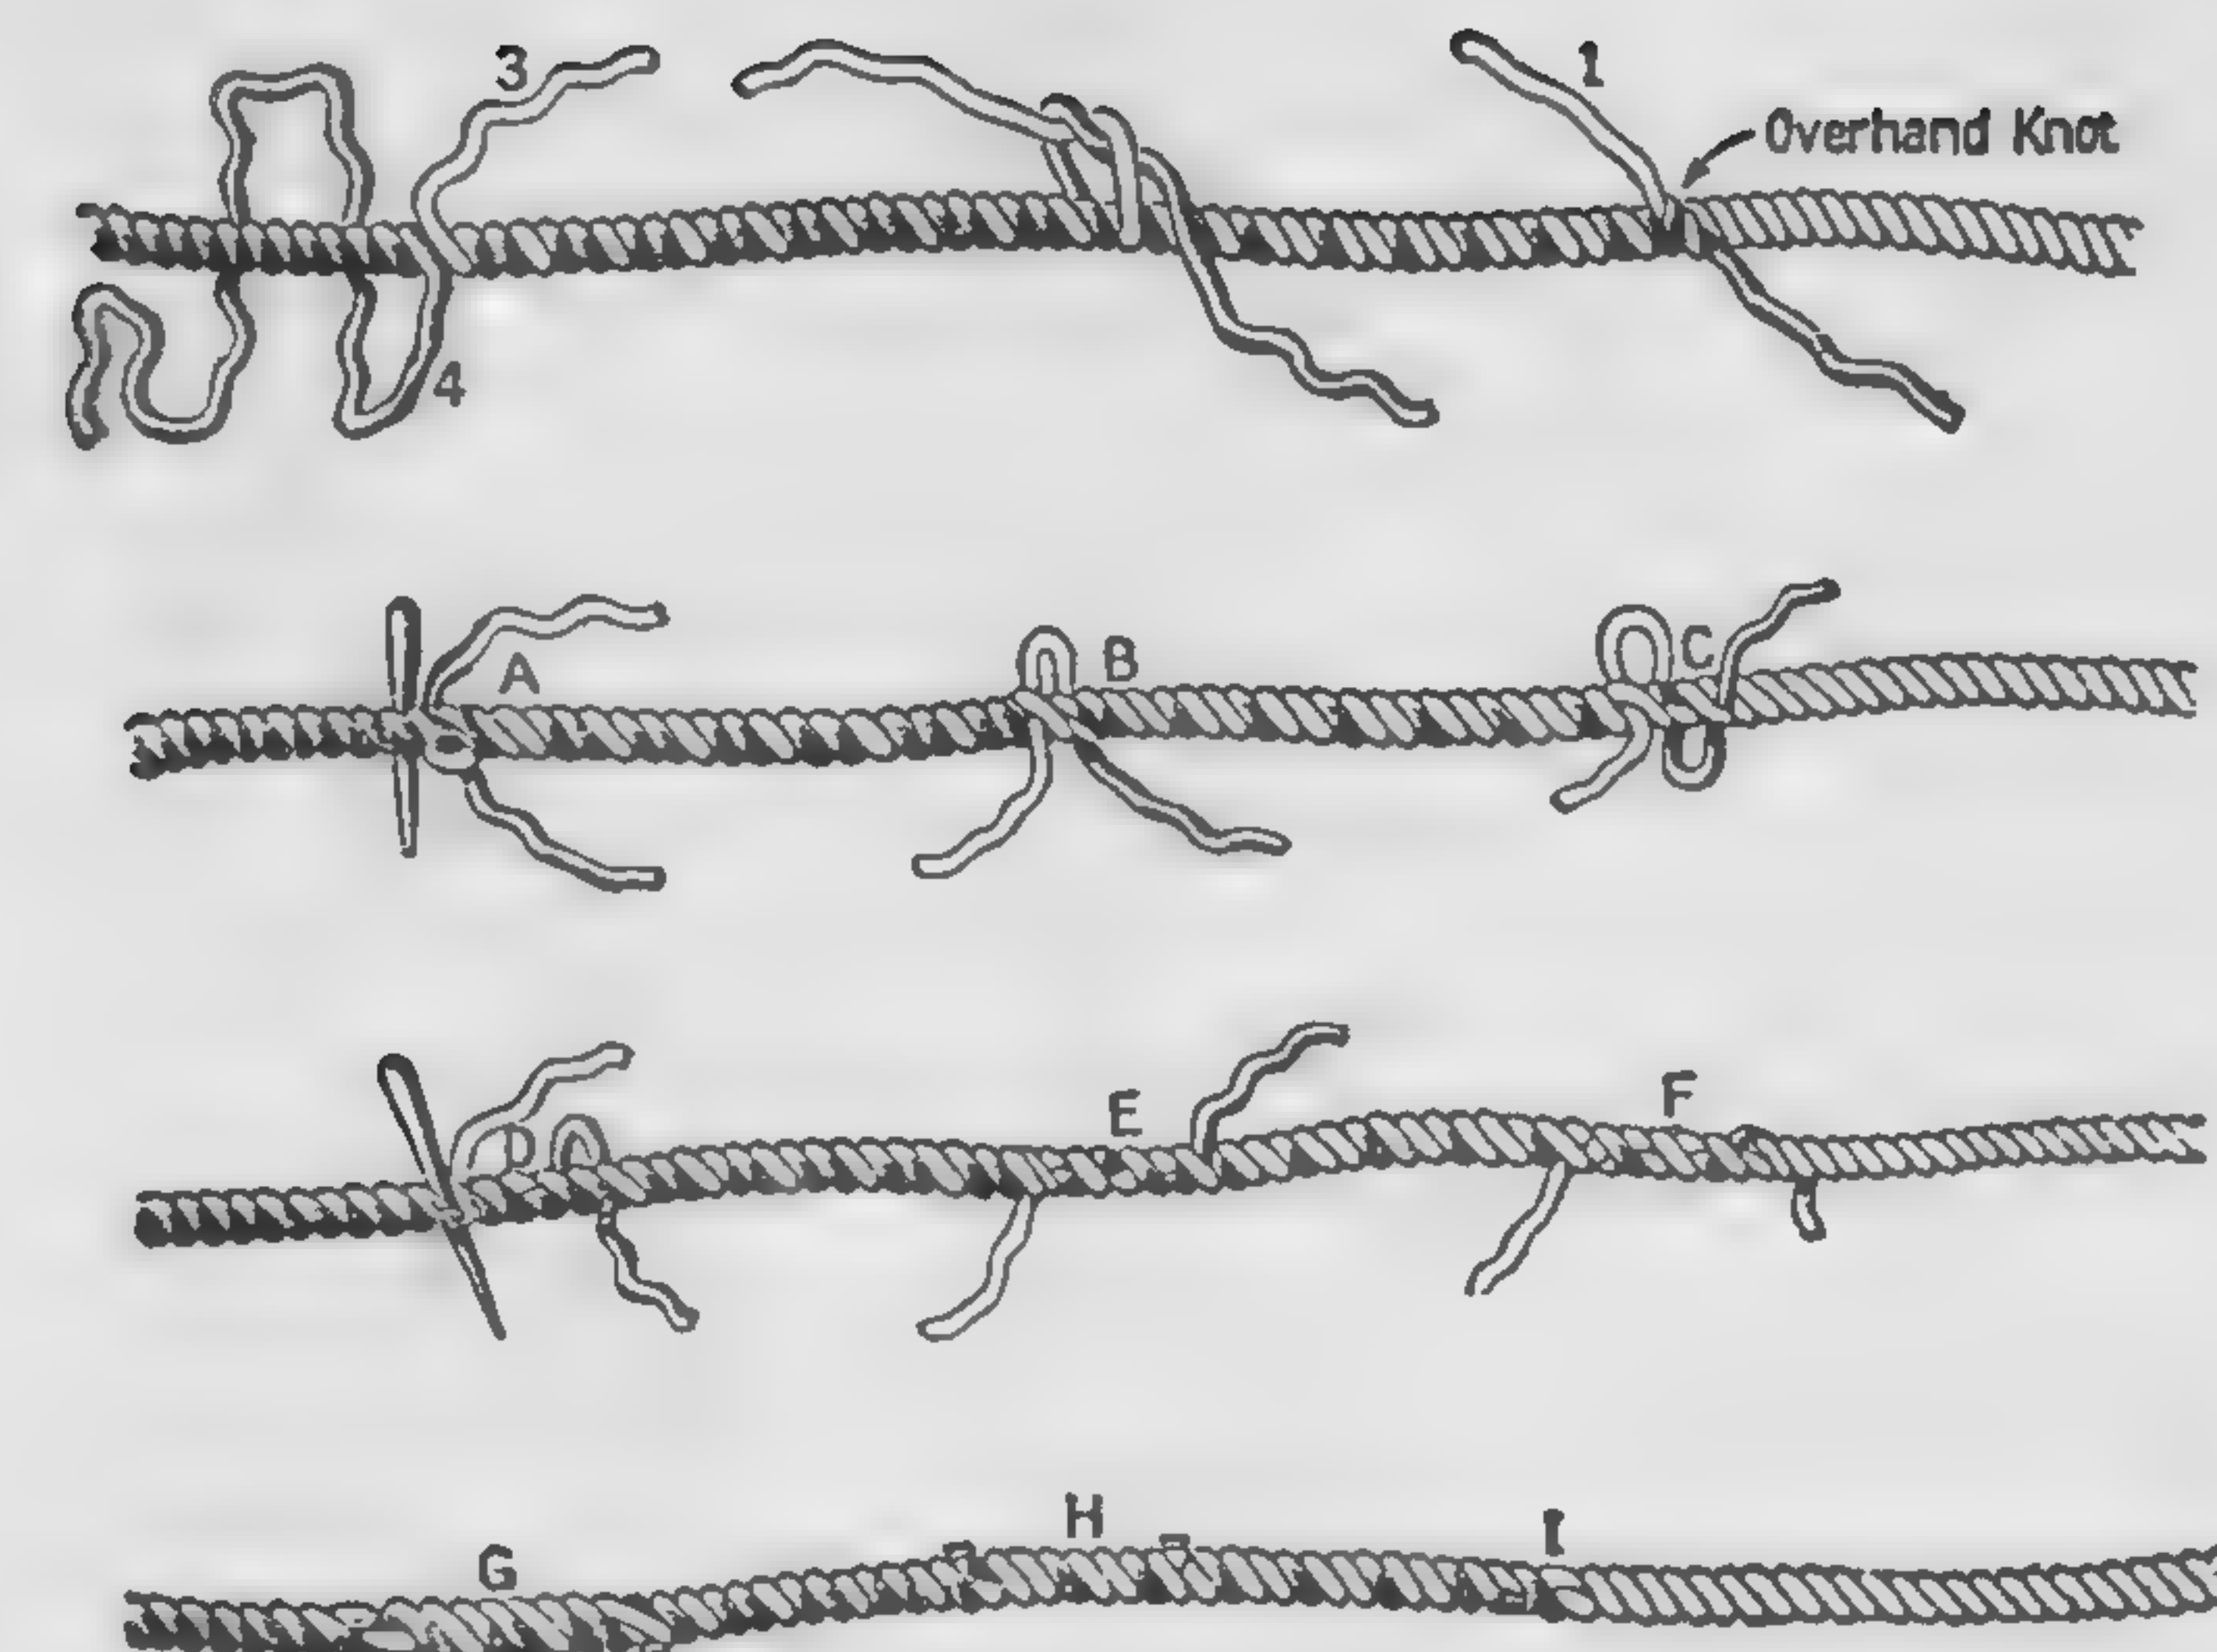

Fig. 5
5. Each pair of strands is tied together now, and the end of each strand tucked. Cut all strands the length of the shortest, that is, 6" to 9" long. Arrange each pair so that the strand from the left is in front of the strand from the right; or, in other words, arrange the strands so that they cannot untwist from the rope without first uncrossing. Tie each pair of strands together with an overhand knot and pull down tightly into rope as shown in Fig. 5.
6. Tuck each strand as shown in Fig. 5.
8. With a round stick, pound down each part of the splice and roll it between two flat surfaces under pressure, as between foot and floor. The completed splice is shown in Fig. 5.